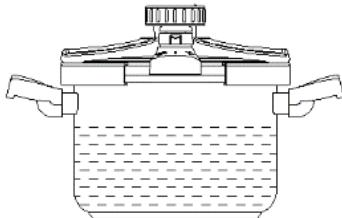

Fig.3
– Less than 2/3 of the cooker height for non-expansive food such as meat, vegetable, etc. (Fig. 3)